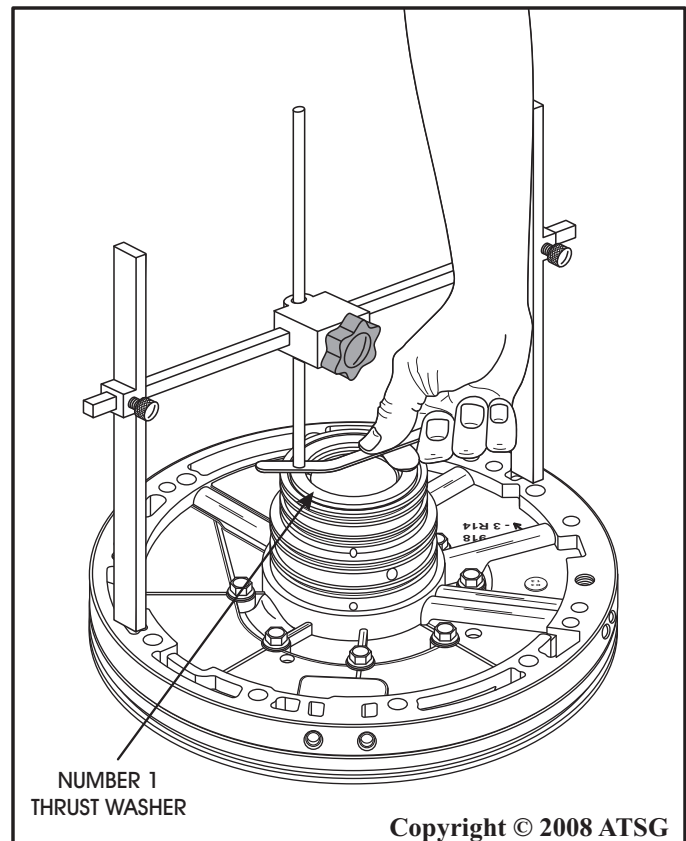

Figure 208
58. Install the number 1 selective thrust washer on the completed oil pump assembly, as shown in Figure 208, and retain with Trans-Jel®.
59. Now, turn the "H" gage over and set it on the completed oil pump assembly, as shown in Figure 208.
60. Measure with feeler gauge between number 1 selective thrust washer and adjustment rod, as shown in Figure 208, for proper front end-play.